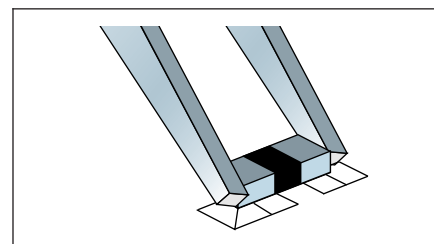

Figure 2 Position Tip
6. Lower tips over component and squeeze handpiece to contact both solder joints. (See Figure 2.)